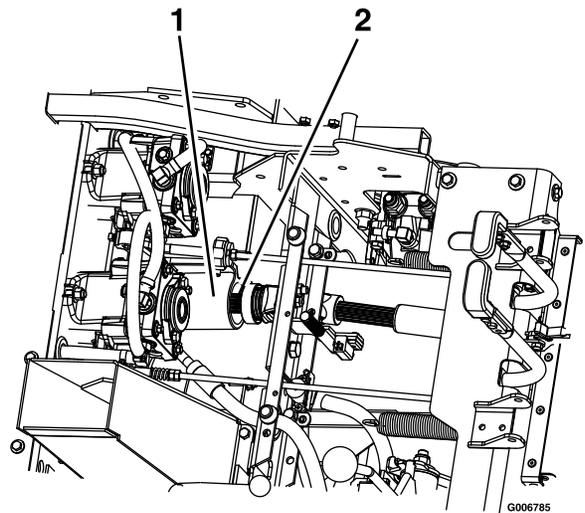

**Figure 71**
8. Remove the hairpin cotter and clevis pin from both sides of the PTO guard (Figure 71).
7. Align the upper portion of the rubber PTO guard to the tabs on the front of the console and secure with a clevis pin and hairpin cotter on each side (Figure 71).